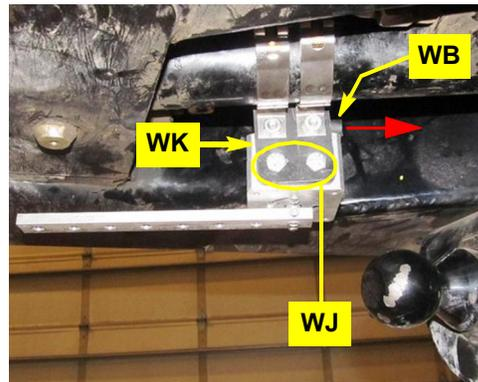

Figure 2c: WAS assembly installed
c. Using bolts **WJ**, attach the WAS assembly from step 1 on the front face of bracket **WK** with wire connector **WB** uppermost and pointing to the right side of the machine (Figure 2c).